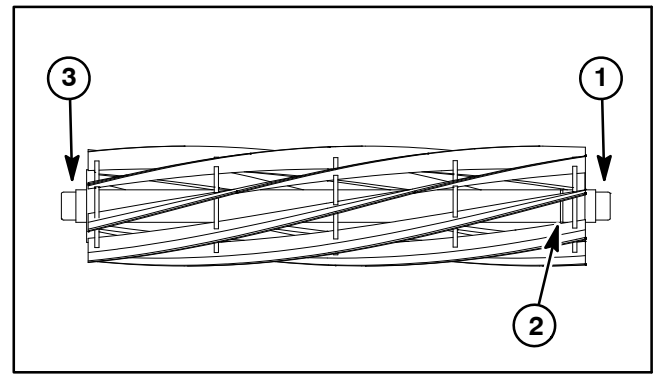

Figure 28
1. Remove bearing lock screw (item 5) and reel nut (item 6) from cutting reel. Reel nut has LH threads and is in end of reel shaft identified with a groove that is just inside of reel spider (Fig. 28).
3. Install bearing lock screw (item 5) and reel nut (item 6) into reel shaft to secure bearings. Reel nut has LH threads and should be installed in end of reel shaft identified with a groove that is just inside of reel spider (Fig. 28).